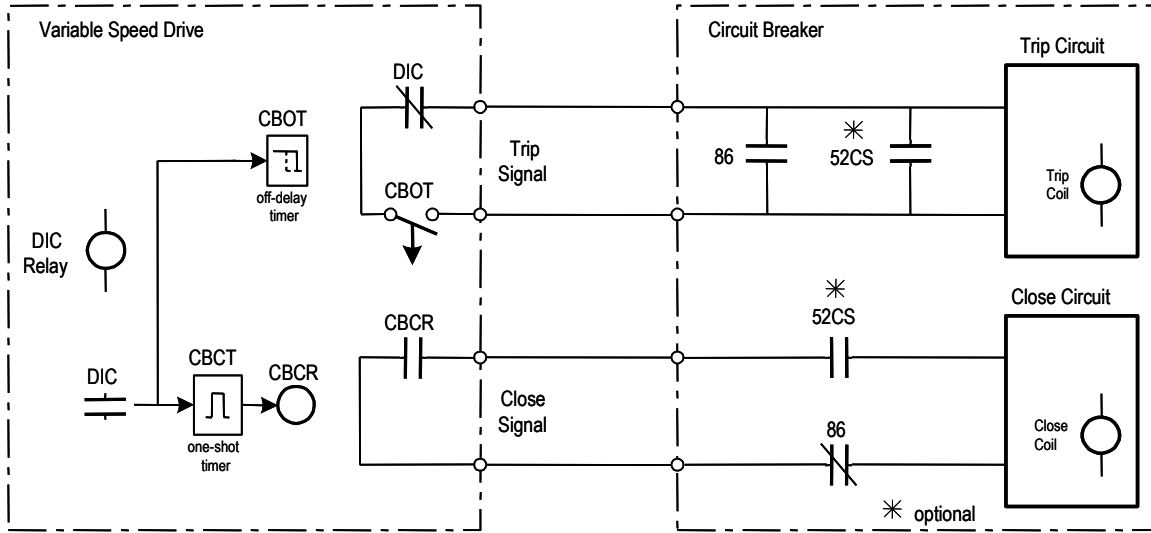

Figure 7 – Pulsed or Momentary Trip and Close Signals
- b) **Pulsed or Momentary Trip and Close Signals:** Rockwell Automation can design their circuit to incorporate pulsed operation as shown in Figure 7. Note that in this case the Trip and Close contacts from the drive will have a designation other than 'DIC', 'DOC' or 'OPC', which this document refers to. However, they will have the same ratings as shown in section 9.0. Rockwell Automation should be given recommended pulse times when this configuration is requested. The trip circuit will be activated when DIC relay de-energizes. The normally-closed DIC contact in series with CBOT contact will close. CBOT relay de-energizes when DIC relay de-energizes but its timed delay contact in series with DIC contact will delay opening for a set time interval. This will send a trip pulse to the Trip Circuit of the circuit breaker for a fixed time interval. CBOT relay should be a pneumatic off-delay timer to provide a trip pulse in the event of loss of control power. The CBCR contact in the Close circuit will close for a set time interval when the drive requests the circuit breaker to close. Refer to Appendix A for relay and contact symbols used.